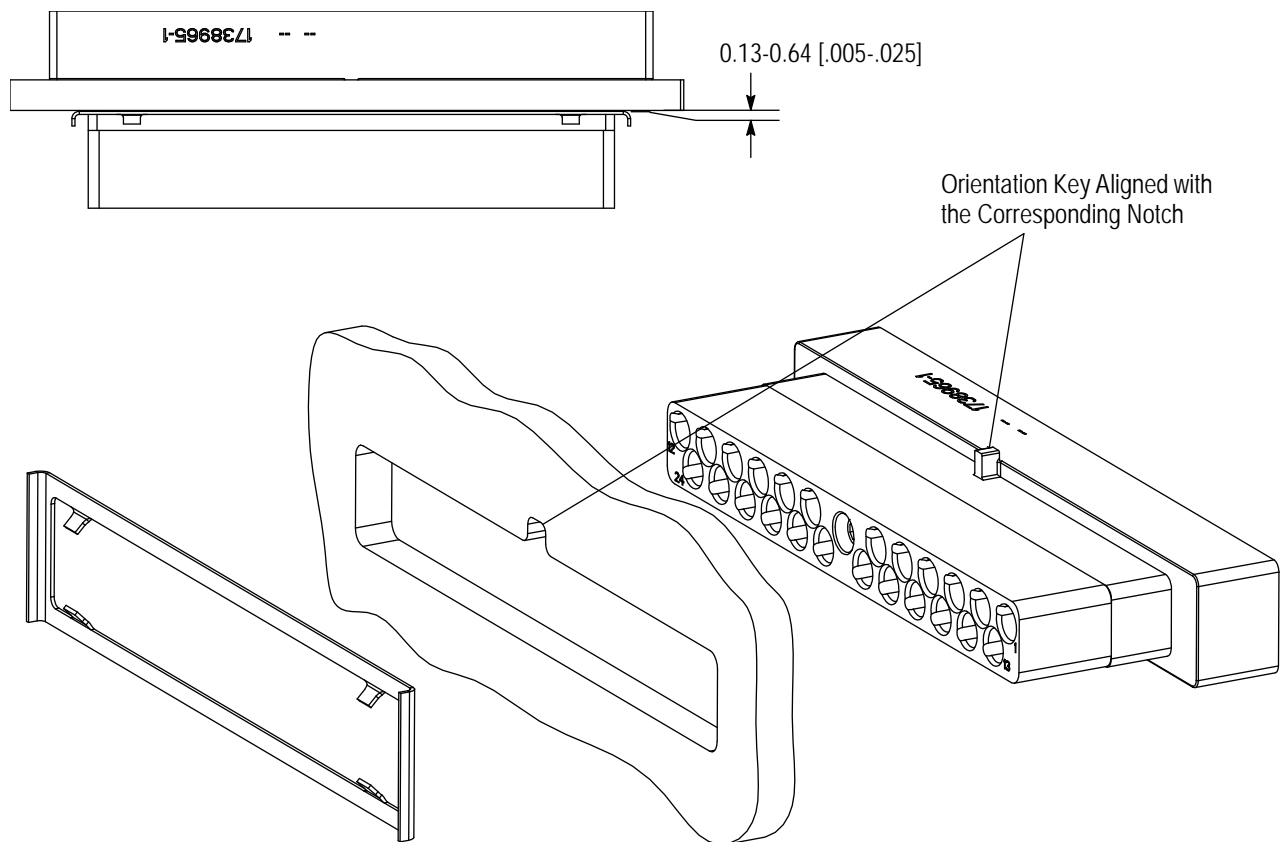

Figure 11
B. Backplane Connector (Figure 11)